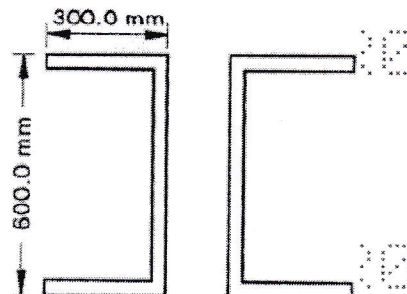

Figure: 1
- b) Compute the distance between the channel sections of 6.5 mm uniform thickness shown in figure 1, so that the principal Moment of Inertia of the combined section are equal. [7+8]